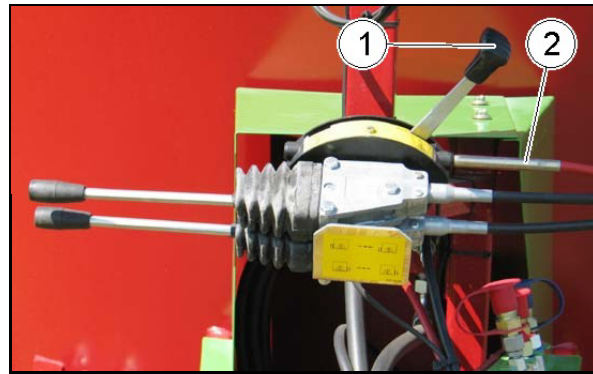

Fig. 18
- the Bowden cable lever (Fig. 18/1) in case of mechanical remote control via the Bowden cable (Fig. 18/2),
For changing the gear level, swivel the Bowden cable lever (Fig. 18/1) into the required position. Beware of the fact that the Bowden cable lever (Fig. 18/1) engages in the selected position at the notch after changing gear.